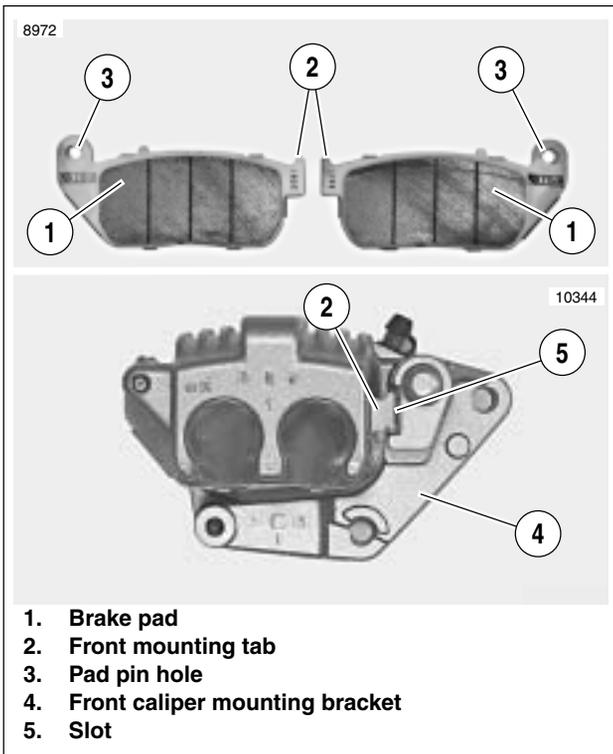

Figure 1-25. Front Brake Pads
- See Figure 1-25. Install **new** inside brake pad (1) using same orientation as pad previously removed. Make sure front mounting tab (2) is seated in slot (5) in caliper mounting bracket (4) and pad friction material faces brake disc.
- See Figure 1-25. Pad front mounting tabs (2) must be fully seated in mounting bracket slot (5).